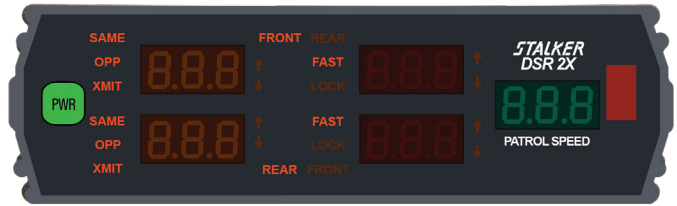

Figure 16
The Same-Direction sensitivity of the 2X is adjusted by pressing the remote control **MENU** key three times. The $\uparrow$ and $\downarrow$ keys then cycle through the five (5) sensitivity levels: **SEn 0**, **SEn 1**, **SEn 2**, **SEn 3**, and **SEn 4** (Figure 16 shows sensitivity level 3, the factory default setting). In each case, the right-hand display refers to the current sensitivity setting. Sensitivity varies from **SEn 0** (minimum range) to **SEn 4** (maximum range). The sensitivity must be set separately for same direction mode and opposite direction mode. Press any of the four Target Zone keys to exit the Menu.